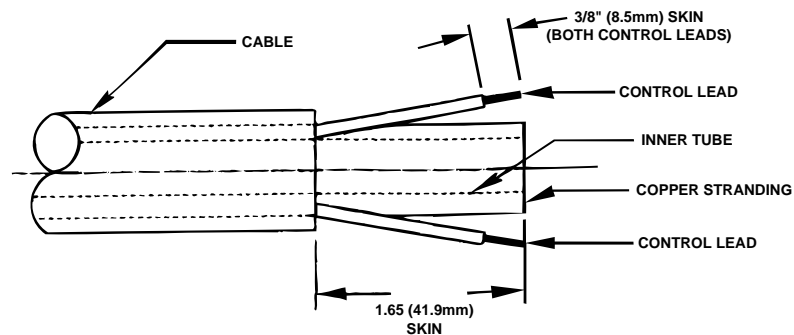

Figure D.3
- h) Cut off the damaged section of cable and strip off the outer jacket as shown in Figure D.3. Be careful not to cut the insulation on the control wires while stripping jacket. Strip red and white control leads 3/8" (9.5mm) from the end.